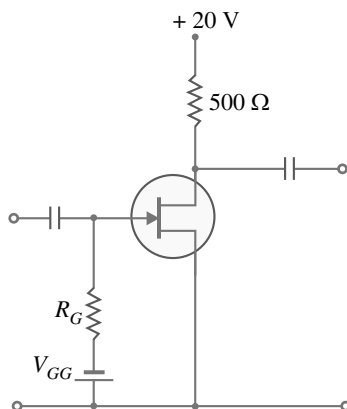

Fig. 17.74
4. For the *JFET* amplifier shown in Fig. 17.74, draw the d.c. load line.